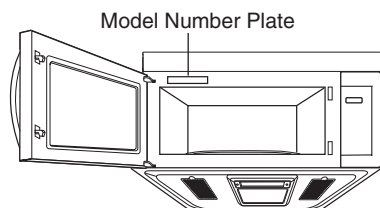

Figure 1
- Read the entire manual before you begin. The model number label is located on the oven front. See Figure 1. Mounting plate is located on back side of microwave oven. See Figure 2.